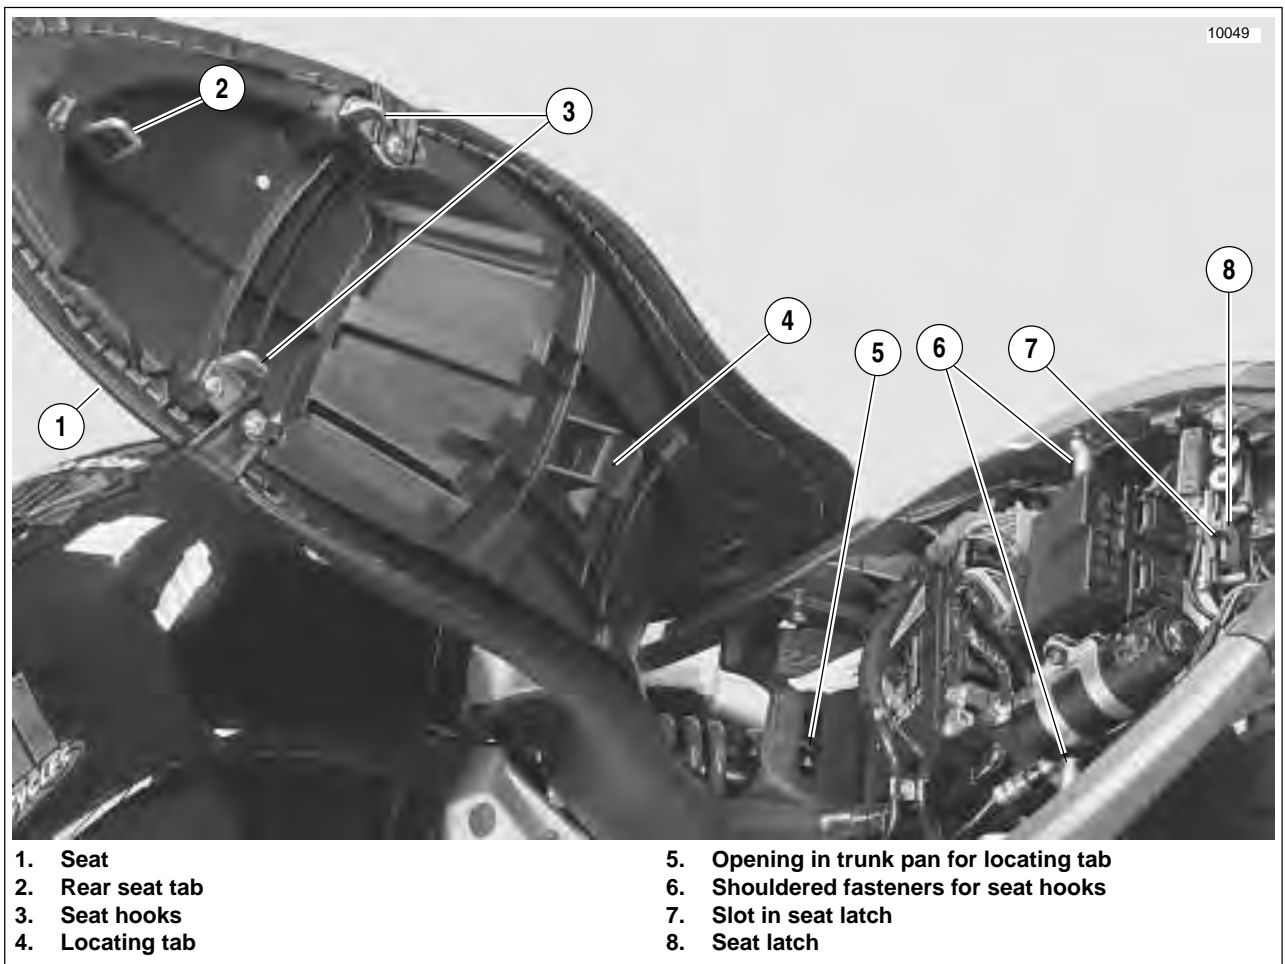

Figure 2-125. Seat and Attachment
See Figure 2-125. The seat anchors in three places on the vehicle. The first is where the locating tab (4) on the seat inserts into the opening on the trunk pan (5). The second is the pair of seats hooks (3) that slide onto the shouldered fasteners (6) located in the left and right tail sections. The last is the rear seat tab (2) which fits into the slot (7) on the seat latch (8).
1. See Figure 2-125. Insert ignition key into seat lock located on left side of motorcycle below seat.
3. Lift and remove seat (1).